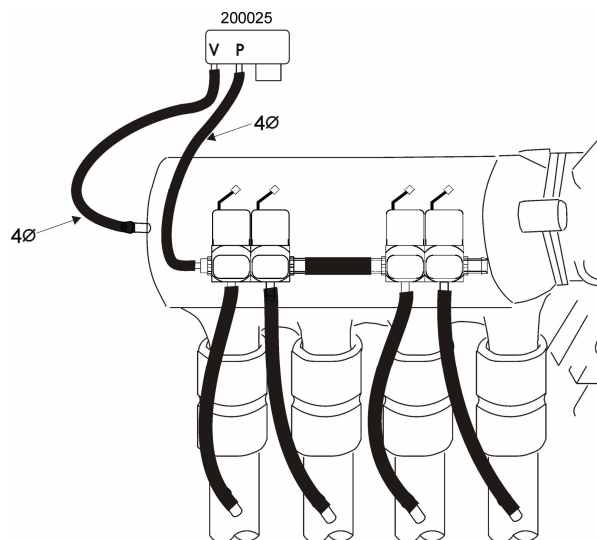

Fig. 1.1.3-1
- Tubing should be kept as short as possible (MAX 500 mm, fig. 1.1.3-1).